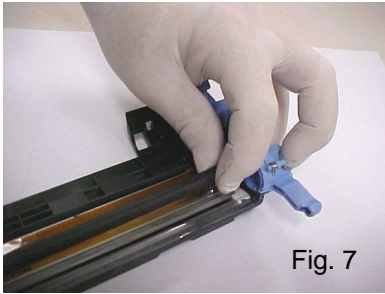

Fig. 7
8. Remove the PCR by pulling both ends out of the cradles. Clean the PCR with a lint-free wipe (Fig. 7).